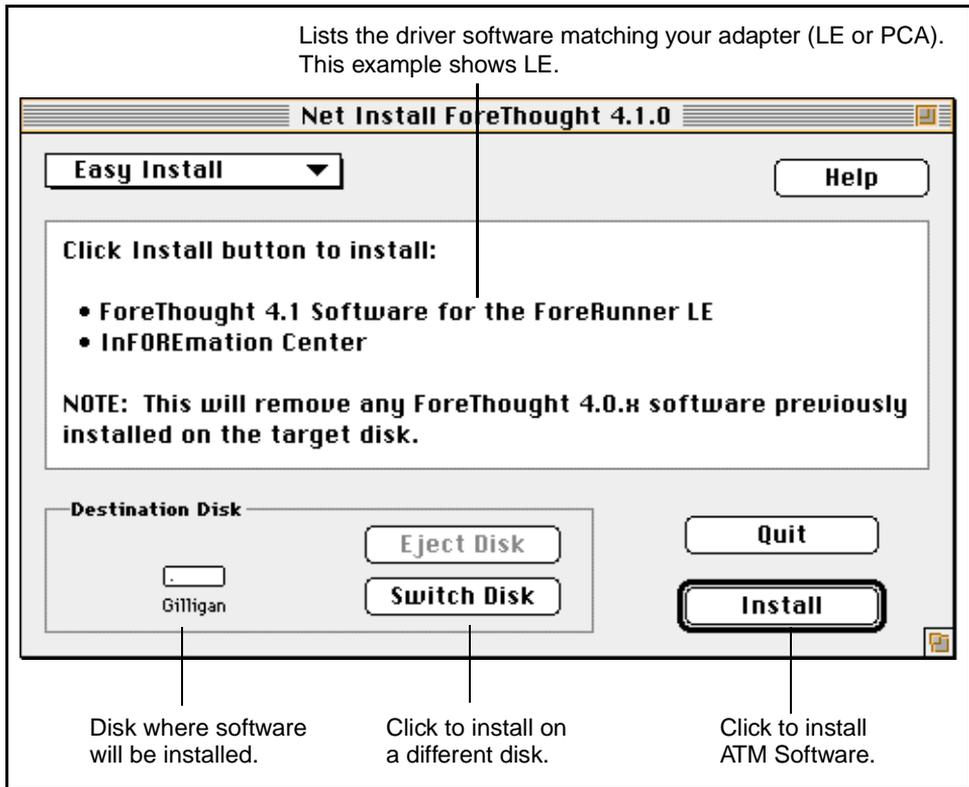

Figure 3.3 - Install FORE Software Window
3. Click **Continue** to proceed. The Install FORE Software window in the default Easy Install mode appears (Figure 3.3).